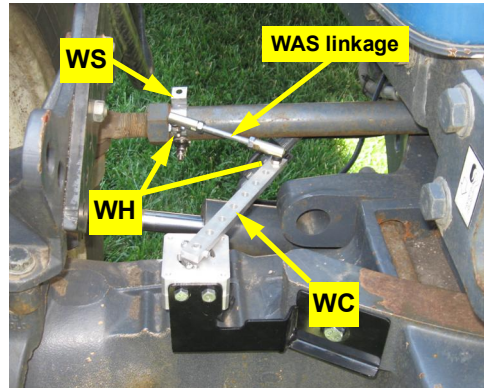

Figure 2e: Installed WAS linkage
- e. Using the remaining two nuts **WH**, connect the assembled WAS linkage from step 1c to the WAS arm **WC** and the front tab of clamp **WS** (Figure 2e).